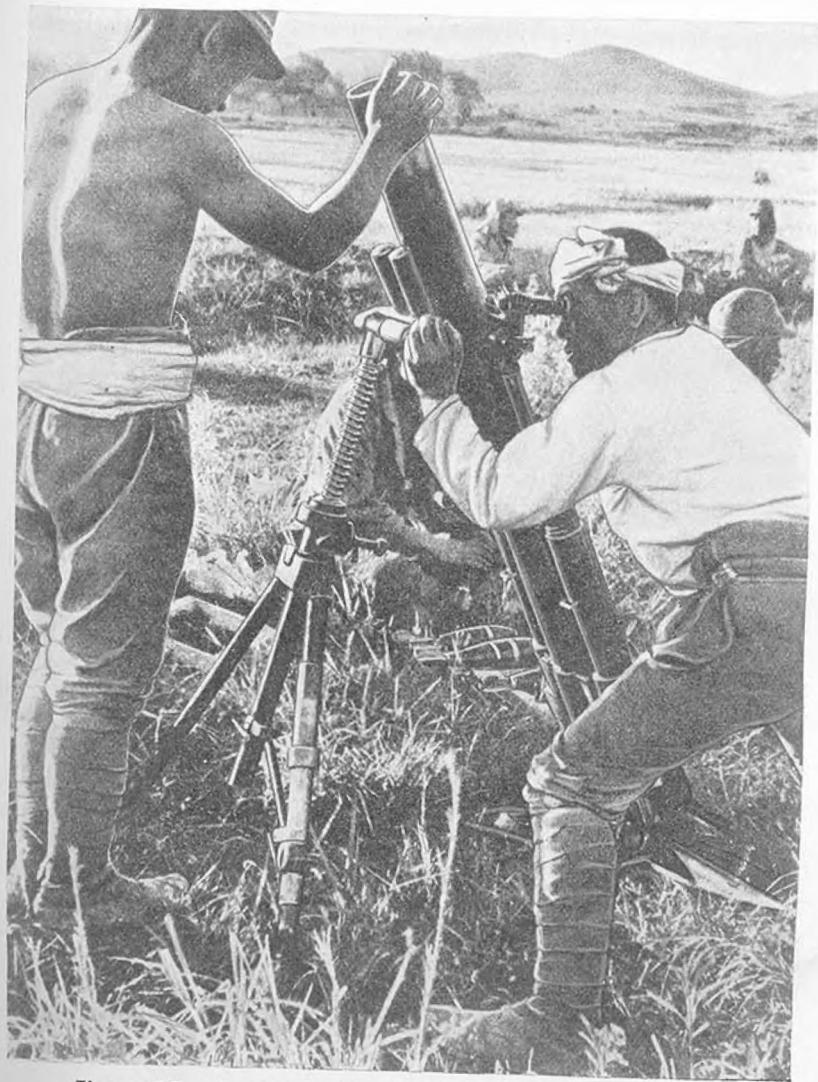

Figure 99.—Laying-in Model 94 (1934) 90-mm mortar.
(2) *To traverse.*—Traversing is accomplished by turning the knob situated at the end of the traversing screw where the barrel is collared to the bipod (fig. 99).